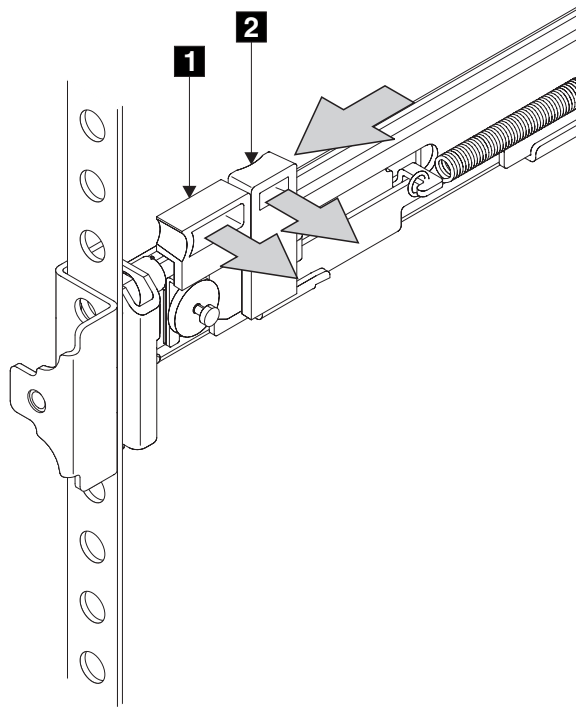

Figure 42. Closing the latch-lock carrier assembly
8. Push the latch lock **2** (Figure 42 on page 47) away from the rail to release the carrier. The latch-lock carrier slides toward the front of the rack and the locating pins project through the holes that are in the front flange and in the front rail bracket.